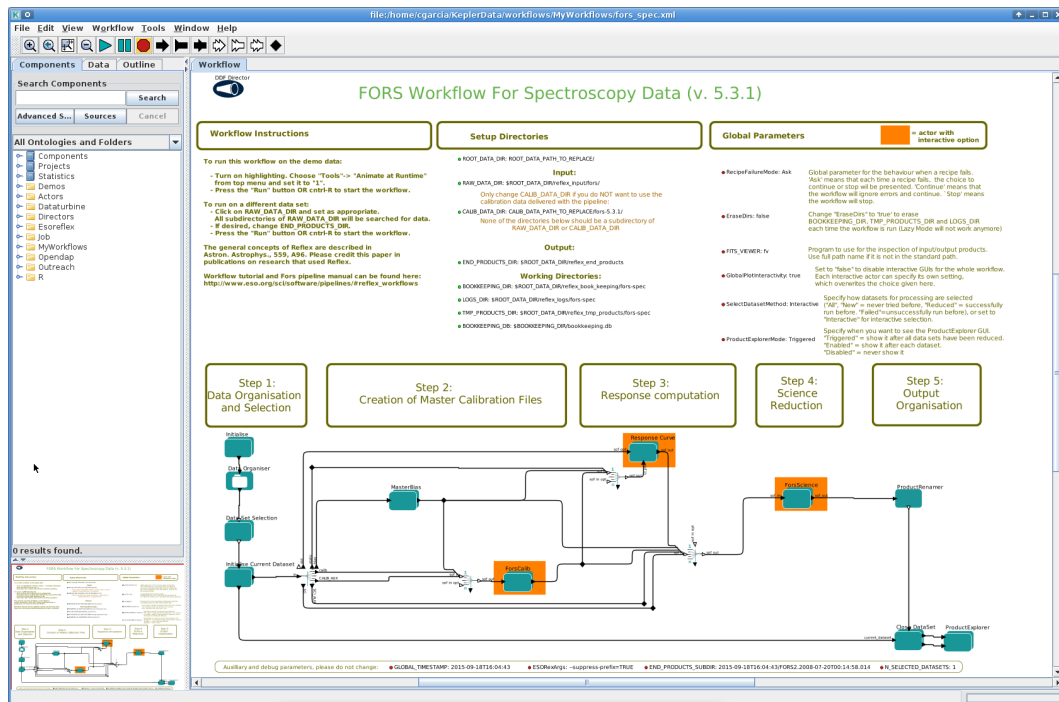

Figure 4.2: *FORS2 workflow general layout.*
2. Now open the FORS2 workflow by clicking on File -> Open File, selecting first `fors-5.3.11` and then the file `fors_spec.xml` in the file browser. You will be presented with the workflow canvas shown in Figure 4.2. Note that the workflow will appear as a canvas in a new window.